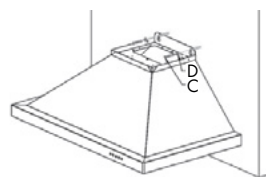

Figure 2
3. Mount the main body of the hood to the two screws and screw into place. *Figure 2*